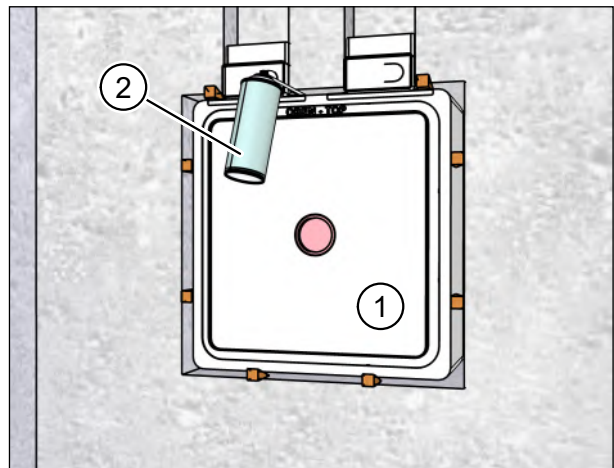

Fig. 21: Filling gaps around the wall box with foam
- ▶ Check that the plaster cover (item 1 in Fig. 21) is inserted before filling with foam.
- ▶ Fill the gaps between the wall box and wall breakthrough all around and continuously with expanding foam (item 2 in Fig. 21) or using another suitable filling material.